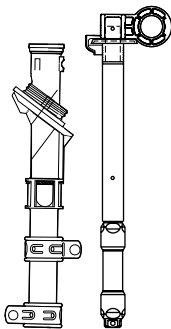

Figure 10. Silver-plated Bay-O-Net with inner fuse holder, fuse cartridge and end plug, Catalog No. 4000361C89FV.
***Silver-plated Bay-O-Net with inner holder, fuse cartridge and end plug. (Figure 10)	4000361C89FV